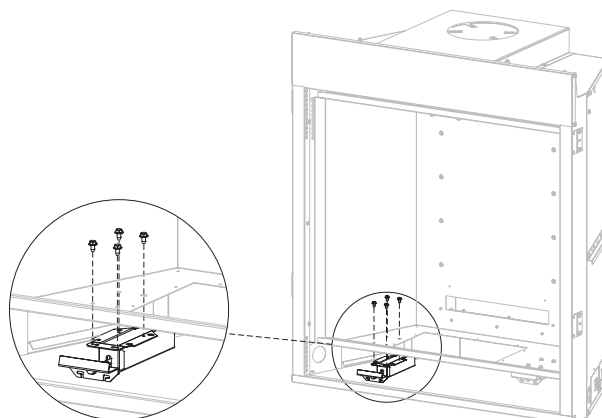

Figure 12
9. Remove the four screws securing the left latch assembly to the underside of the firebox. Retain screws and latch assembly for reassembly. **See Figure 12.**
12. Reinstall the latch assembly removed in step 9. **See Figure 12.**